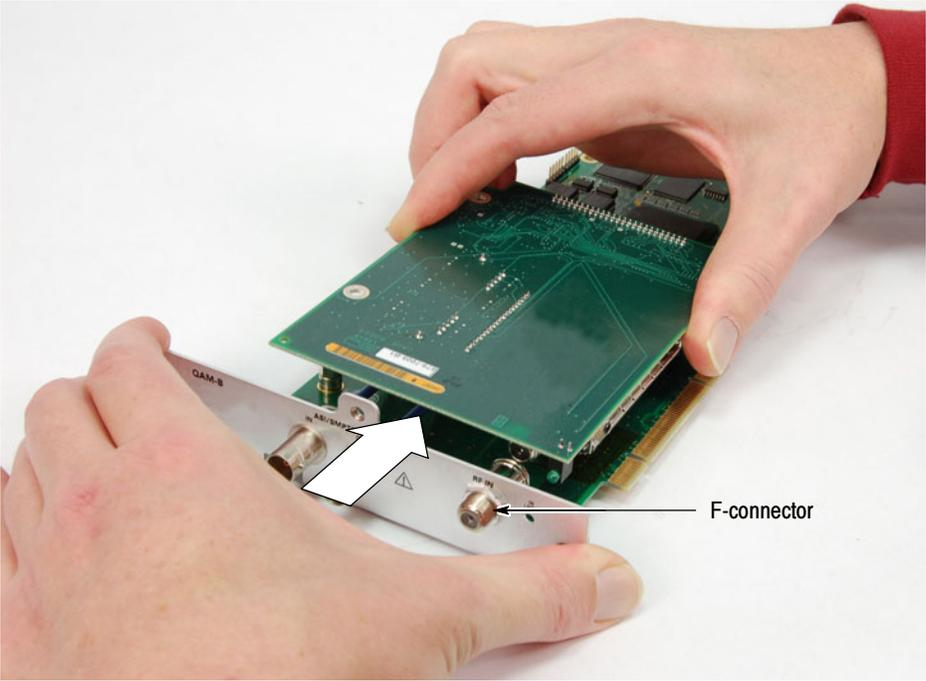

Figure 5: Disengaging the F-connector from the top circuit board
7. Grasp the rear panel on the interface card, and then slide the top circuit board away from the rear panel until the F-connector is disengaged from the circuit board (see Figure 5).